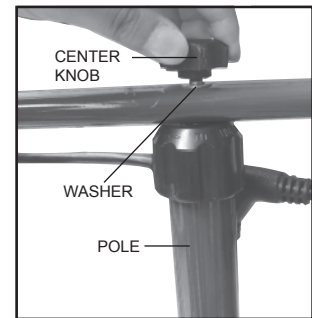

Figure 2
- 3- Mount the fixture assembly bar to the top of the telescope pole by putting one washer on top of the bar then tighten the center knob as shown in Figure 2. Be sure not to over tighten the center knob.